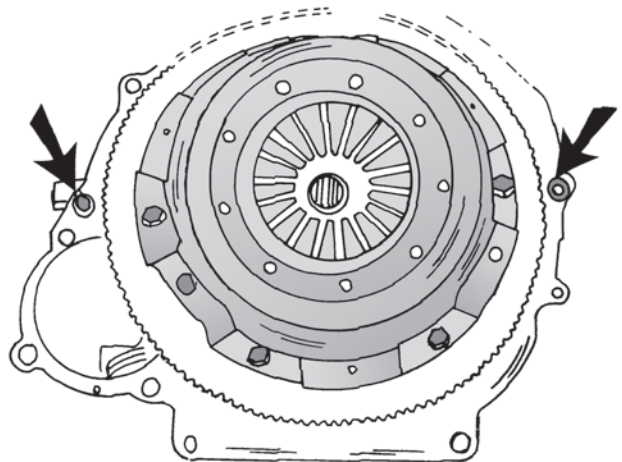

Fig. 1.7. - The arrows show where the dowel pins must be fitted to the cylinder block.
- Check that the two dowel pins, shown in Fig. 1.7, are located in the cylinder block. Sometimes they will remain in the transmission, but must be transferred before the engine is fitted. In this case, fit new dowel pins, as the original ones may be damaged when removed from the transmission.
- Disconnect the throttle cable from the lever on the injection pump and the cold start operating cable as described for the four-cylinder engine (refer to Fig. 1.7).